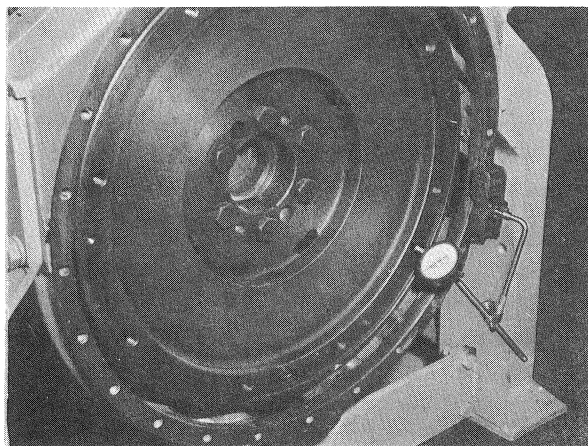

FIGURE 2-2 CHECKING ENGINE FLYWHEEL RUNOUT
- c. Before starting to assemble the generator to the engine, mount the base of a dial indicator on the engine flywheel housing (bellhousing) and position the indicator finger on the drive disk recess of the flywheel as shown on figure 2-2. Set the dial